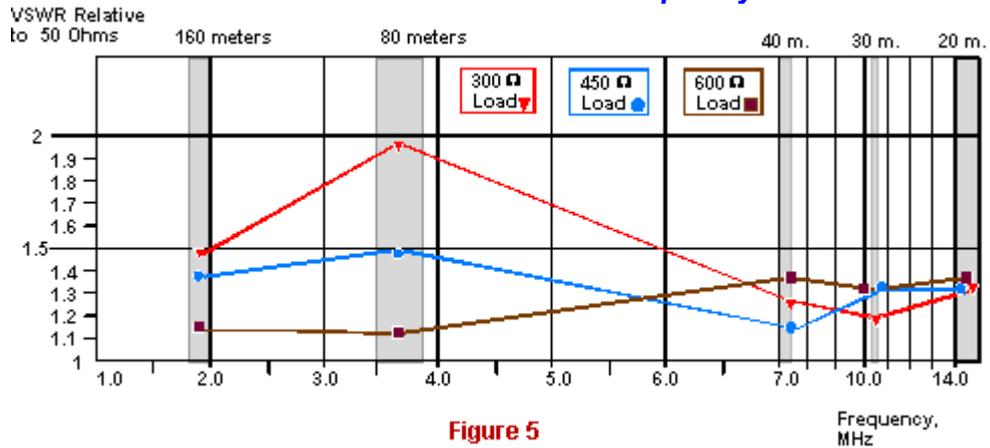

Figure 5
- A VSWR relative to 50 Ohms vs. frequency (Fig. 5),